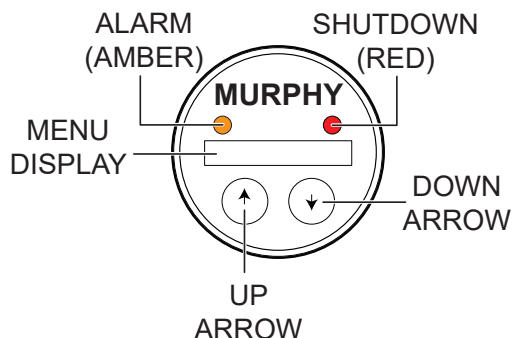

Figure 19. Diagnostic System Display Indicator Lights
4. All switch lamps, indicator lamps, and fans will turn on for 10 seconds to test outputs. The **AMBER** and **RED** LEDs on the **diagnostic system display** will flash until the engine is started (Figure 19).